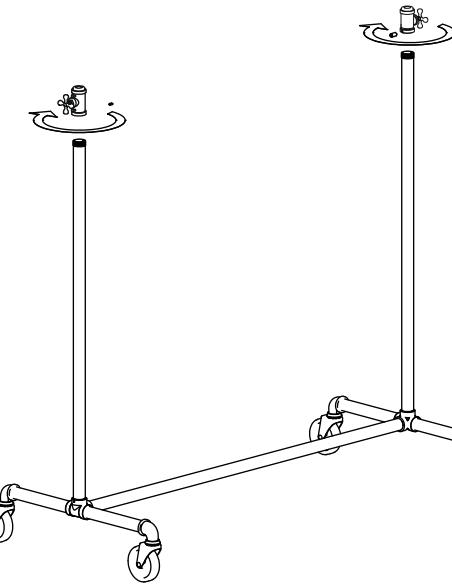

Figure 3
- Screw an adjustable connector to the top of each bottom upright. Make sure connectors are facing out. (See Figure 3)